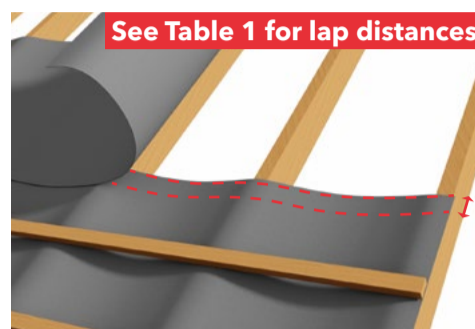

fig 3: Horizontal laps
4. Continue laying each course of Danelaw LR150 working up the roof pitch in the same way. It is important to ensure that upper layers of the underlay overlap lower layers by the correct amount (fig. 3). The product is printed with overlap lines for guidance and ease of installation. Please see Table 1 for the horizontal overlap distance for different roof pitches.